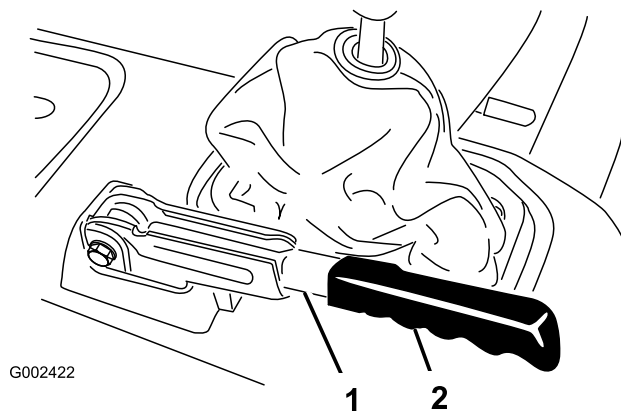

Figure 57
1. Remove the rubber grip from the parking brake lever (Figure 57).